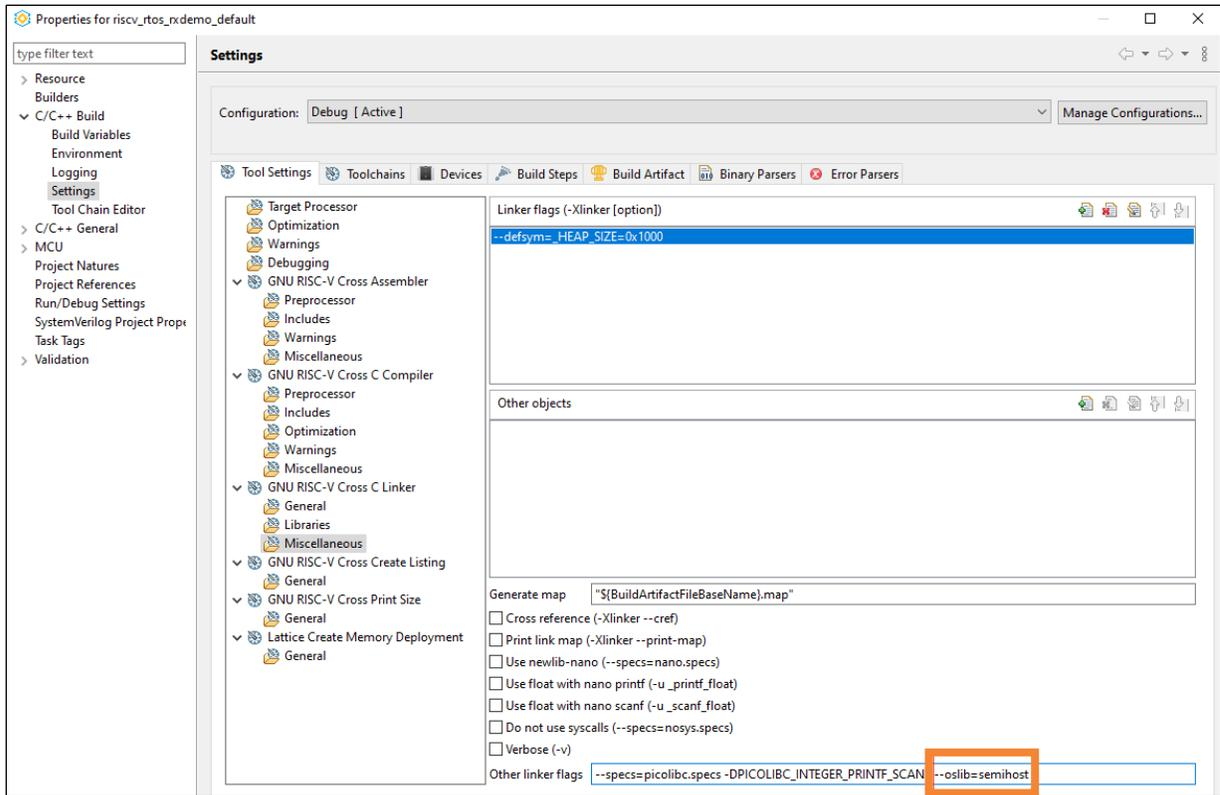

Figure 6.14. `--oslib=semihost` Linker Flag
7. Select **GNU RISC-V Cross C Linker > Miscellaneous**. Check link flags in the label, Other linker flags. Make sure the linker flag, --oslib=semihost, is supported (Figure 6.14).